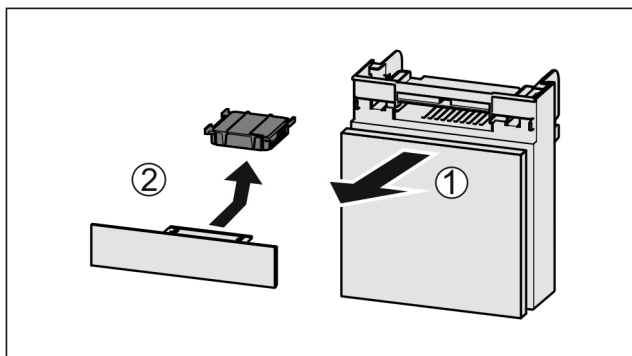

Fig. 113
- Pull out the compartment Fig. 113 (1).
- Remove the carbon filter Fig. 113 (2).